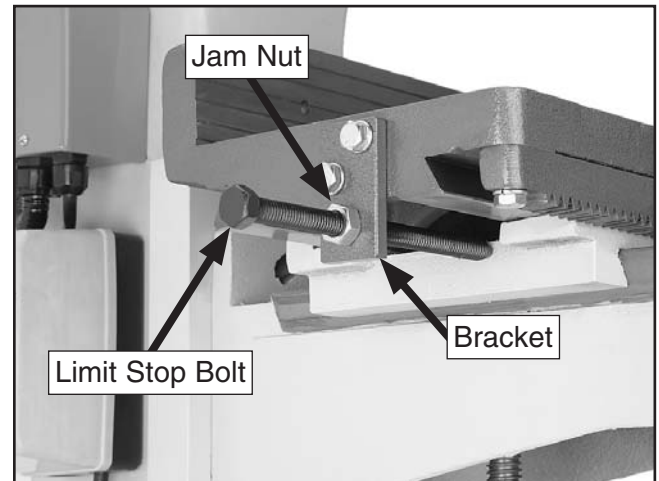

Figure 23. Longitudinal limit stop installed.
The longitudinal limit stops are used to limit the distance the table can travel along the X-axis (from side-to-side), as shown in **Figure 23**.
3. Thread a limit stop bolt into the bracket on the same side of the table until it just touches the knee underneath the table, as shown in **Figure 23**, then tighten the jam nut up to the bracket to hold the bolt in place.